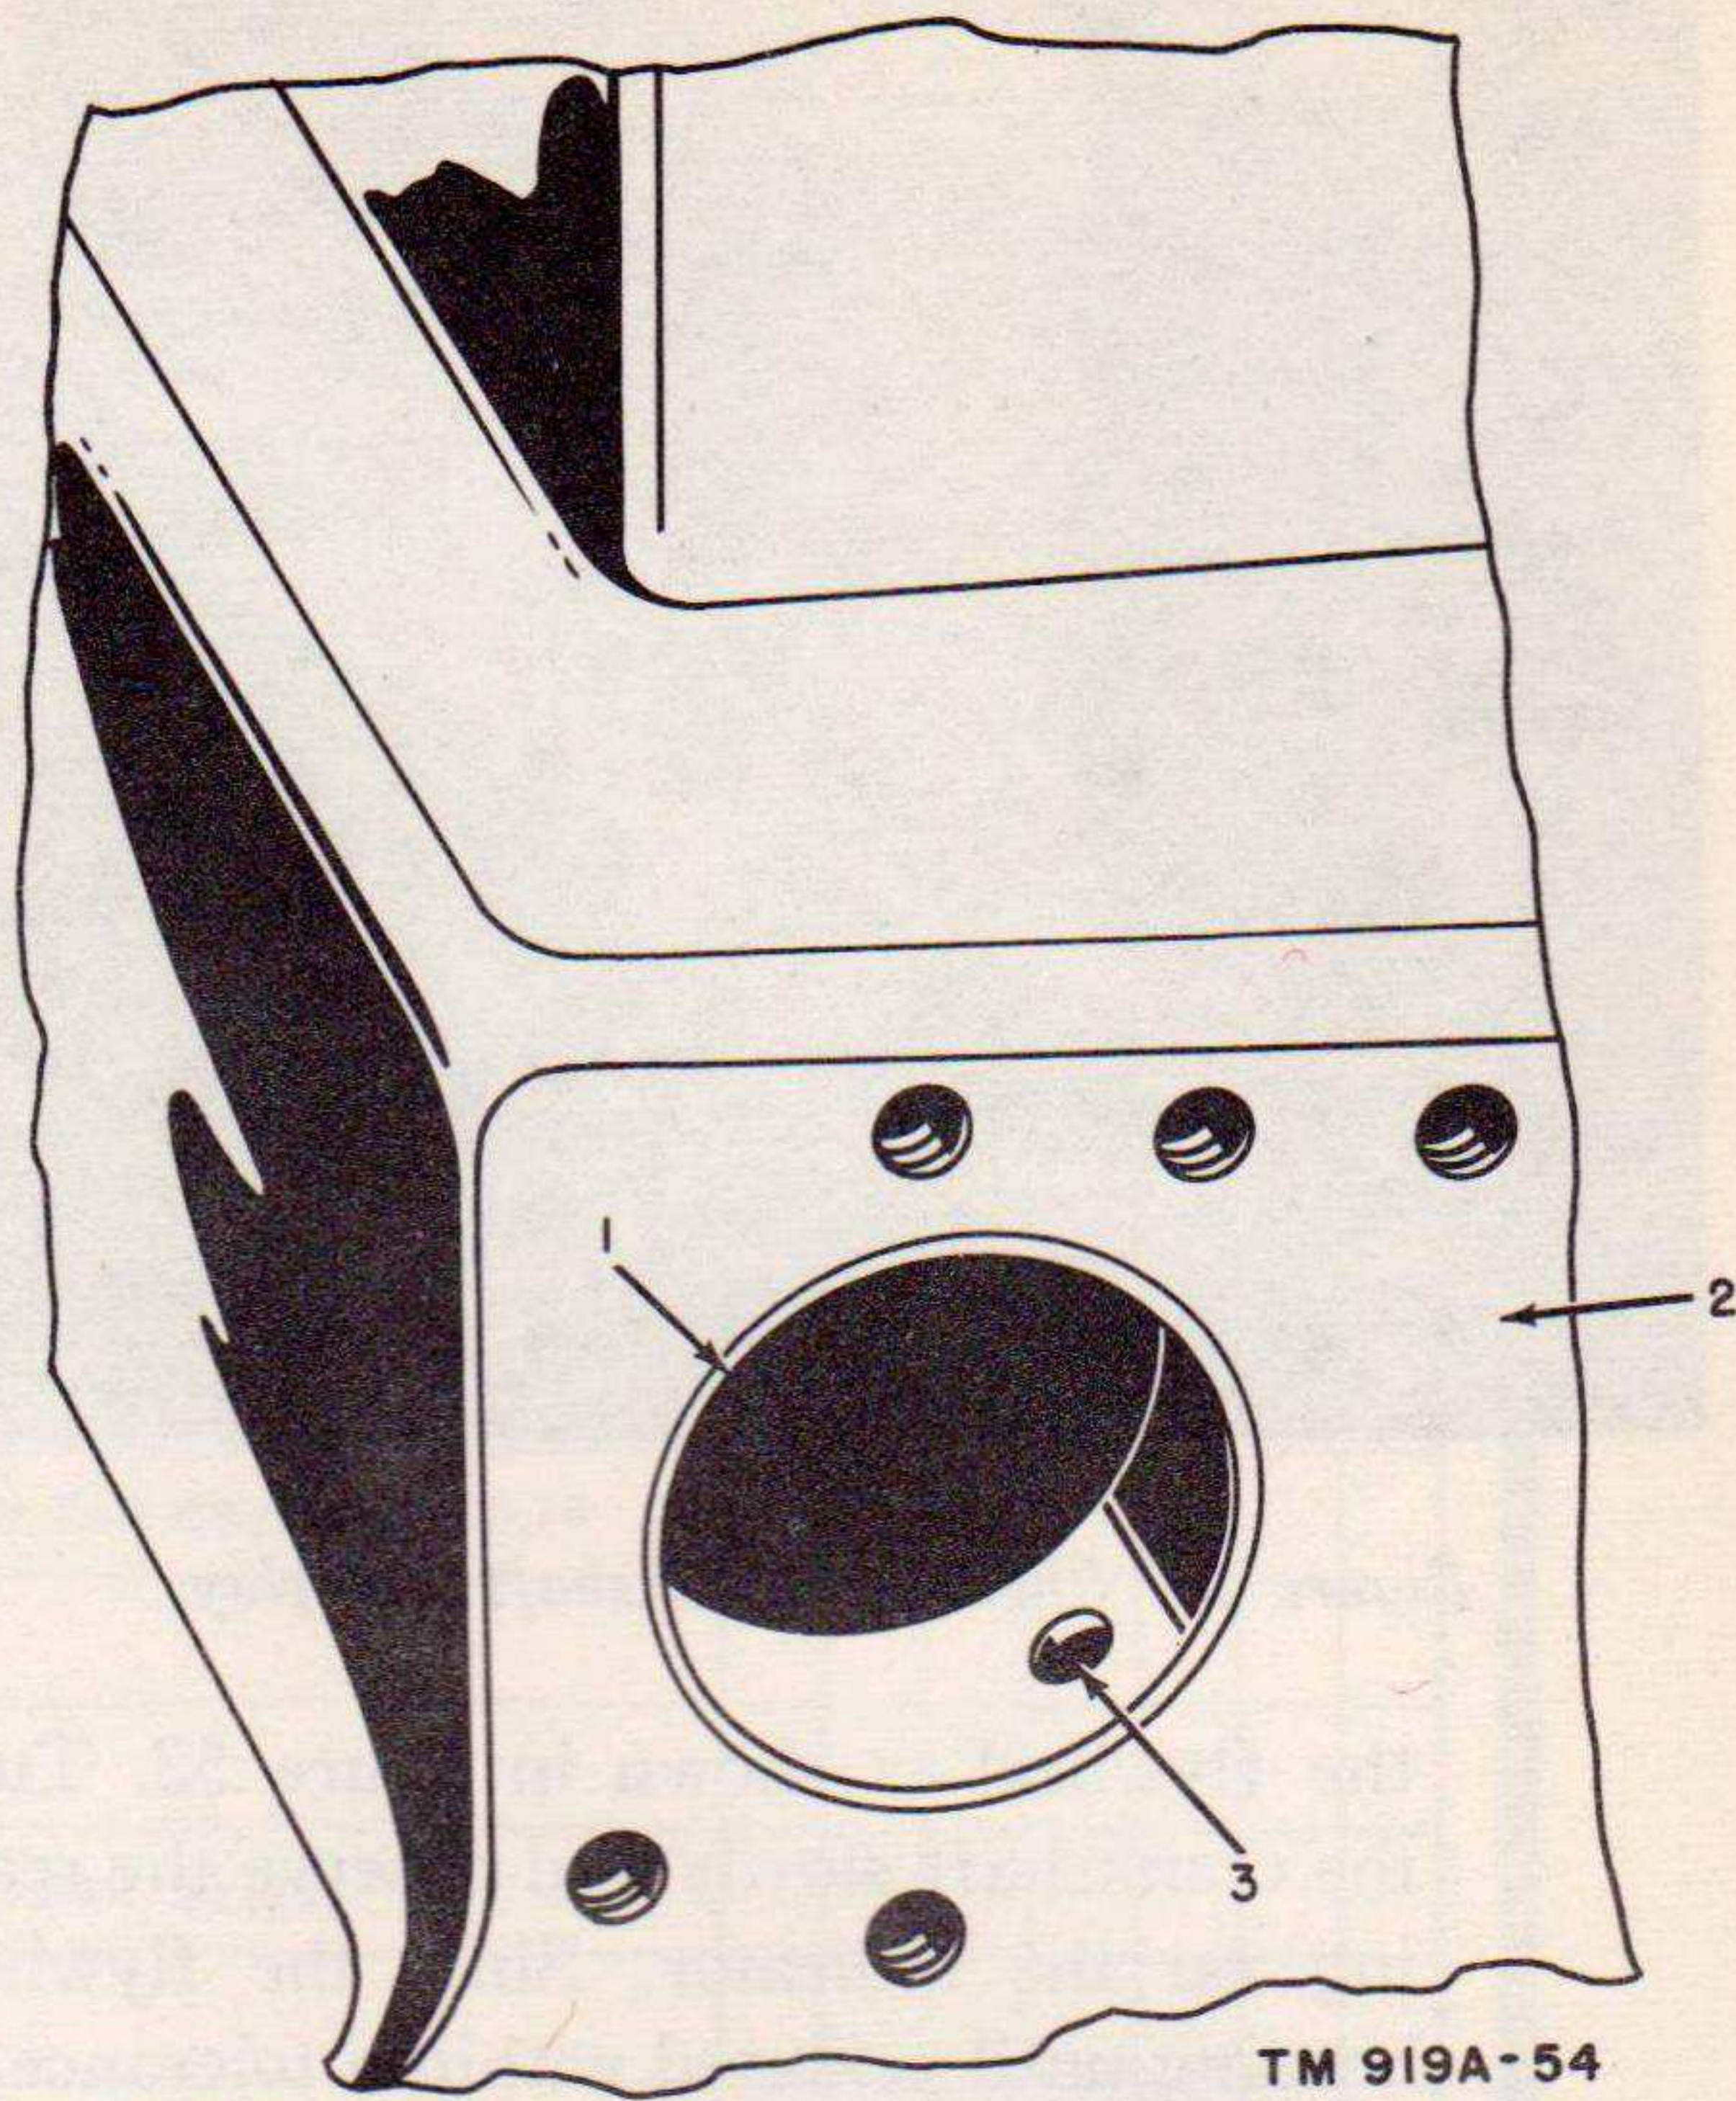

Figure 54. Camshaft bearing pressed into position.
- (1) Place the cylinder block in an arbor press. Position the camshaft bearing (1, fig. 54) on the block with the oil hole (3) in the bearing aligned with the oil hole in the block and press the camshaft bearing in until flush with the face of the block. Install the camshaft center and rear bearings in the same manner.